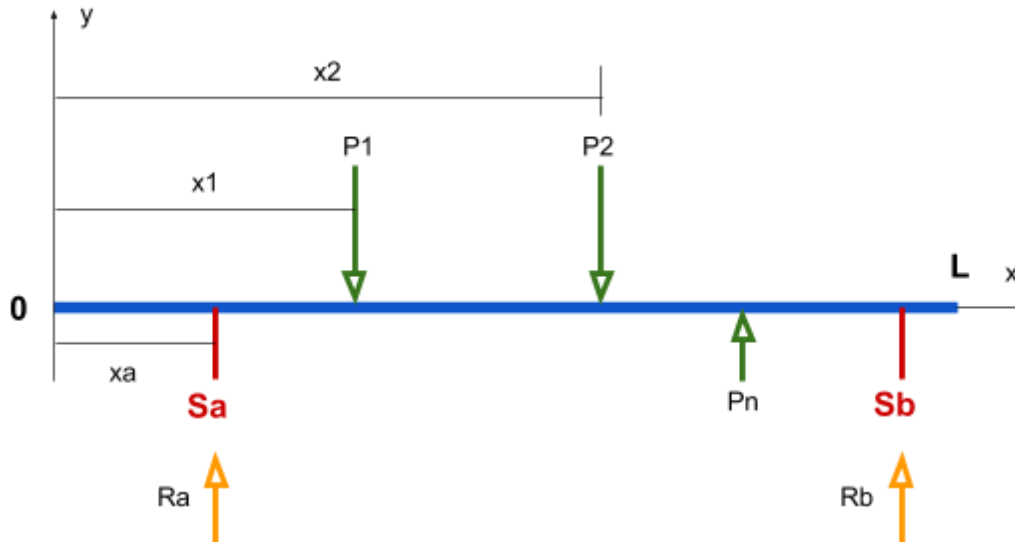

Figure 1. Simply supported beam
To compute the reaction forces on the beam of Figure 1, the principle of moments of forces can be employed. In this principle, the sum of moment around point 0 in the figure has to be zero. Here, we consider that each feature (point load P_i or reaction R_i) can be uniquely located with its x-distance (x_i) to the left extremity of the beam. Also, each feature has positive magnitude if pointing in the positive direction of the y-axis. Thus, in the figure, R_a , R_b , and P_n are positive whereas P_1 and P_2 are negative.
The following formula, derived from the balance of moments, can be used to compute the reaction at support b (remember that, in Figure 1, P_1 and P_2 are negative numbers) :
2. **X**: the position of the support along beam (from the left; see e.g. x_a in Figure 1)